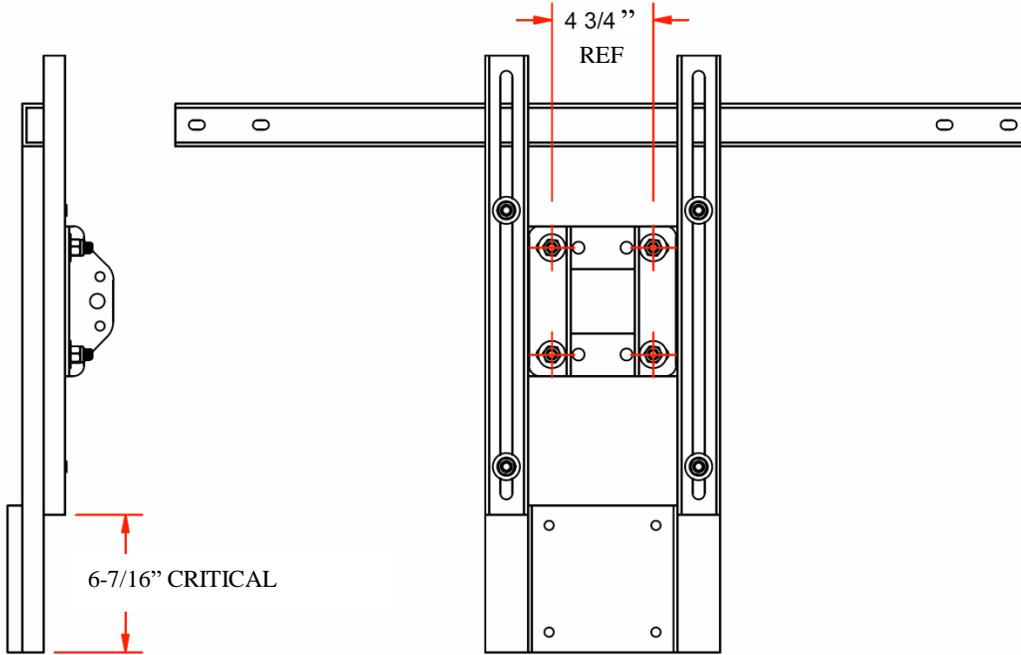

Figure 2
2. Slide the T-Frame on the H-Frame slot channel till the bottom of both frames are at a distance of 6-7/16" (*Figure 2*) and tighten the carriage bolts down.